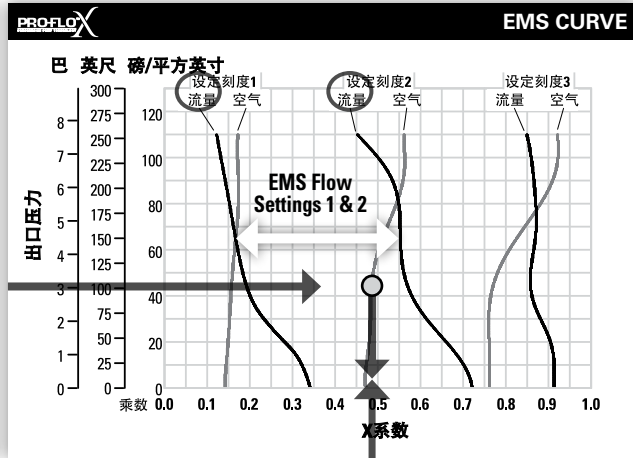

Figure 5
Step 4: Determine EMS setting from the flow X Factor. Plot the point representing the flow X Factor (0.49) and the application discharge pressure 2.8 bar (40 psig) on the EMS curve. This is done by following the horizontal 2.8 bar (40 psig) psig discharge pressure line until it crosses the vertical 0.49 X Factor line. Typically, this point lies between two flow EMS setting curves (in this case, the point lies between the flow curves for EMS setting 1 and 2). Observe the location of the point relative to the two curves it lies between and approximate the EMS setting (Figure 5). For more precise results you can mathematically interpolate between the two curves to determine the optimal EMS setting.